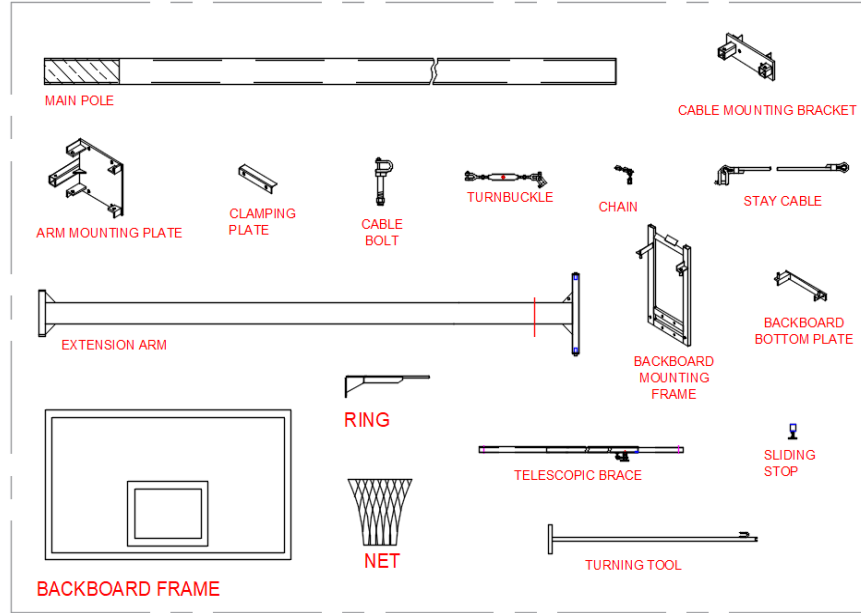

Figure 3: Typical Raptor Basketball Tower Parts List
- *Please refer to Figure 3 for further details. The post must be installed in a specific orientation as shown in the Figure, and the Installer/Contractor is responsible for ensuring that.*